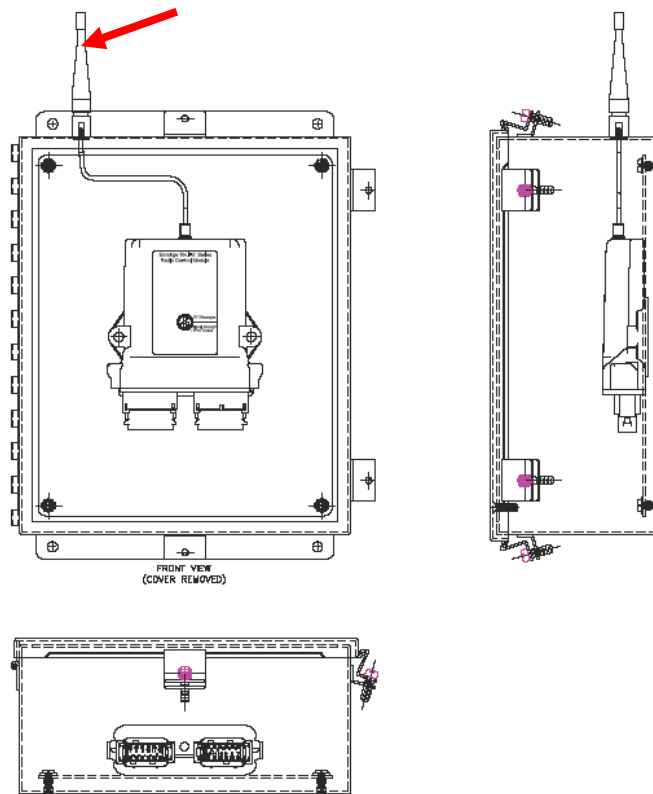
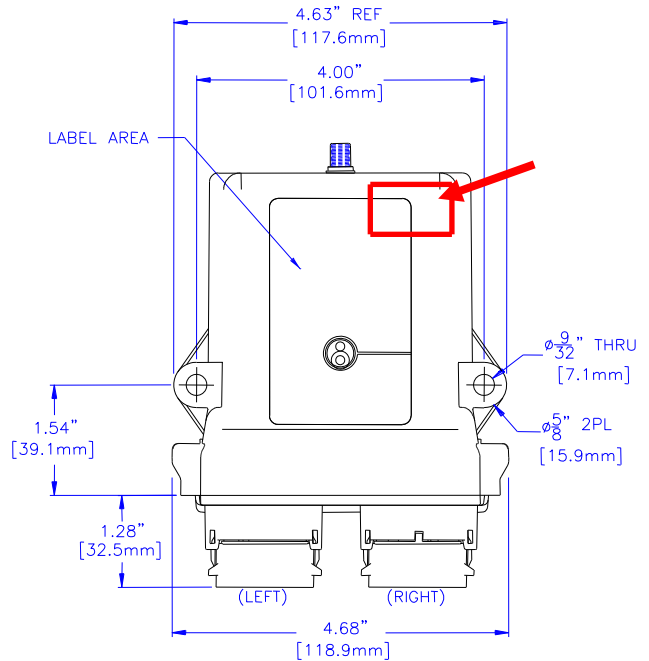

Figure 1: Remote Antenna (marked in red)
Figure 3: CAN-6 (900 MHz version only) with Internal Antenna (red)
1. Determine the location of your antenna from Figure 1 through Figure 3 (the antenna is designated with the red arrow). **Be sure to mount the receiver antenna in direct line-of-sight of the operator and free from all obstructions.**
5. If obstructions cannot be cleared, or the unit must be mounted inside a metal enclosure, the remote antenna should be used (see Figure 1).